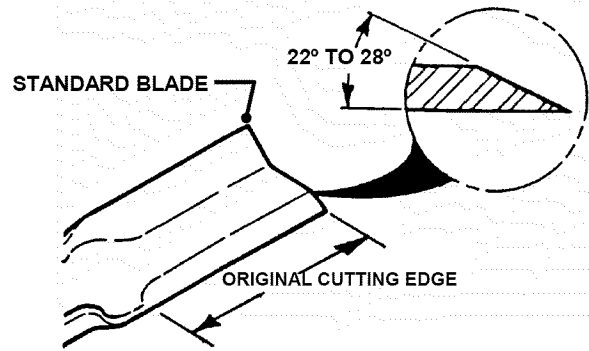

FIGURE 4.25
5. If a blade is in good condition, sharpen cutting edge at an angle of 22 to 28 degrees. **DO NOT** sharpen beyond existing cutting edge. Replace blades not in good condition. See Figure 4.25.